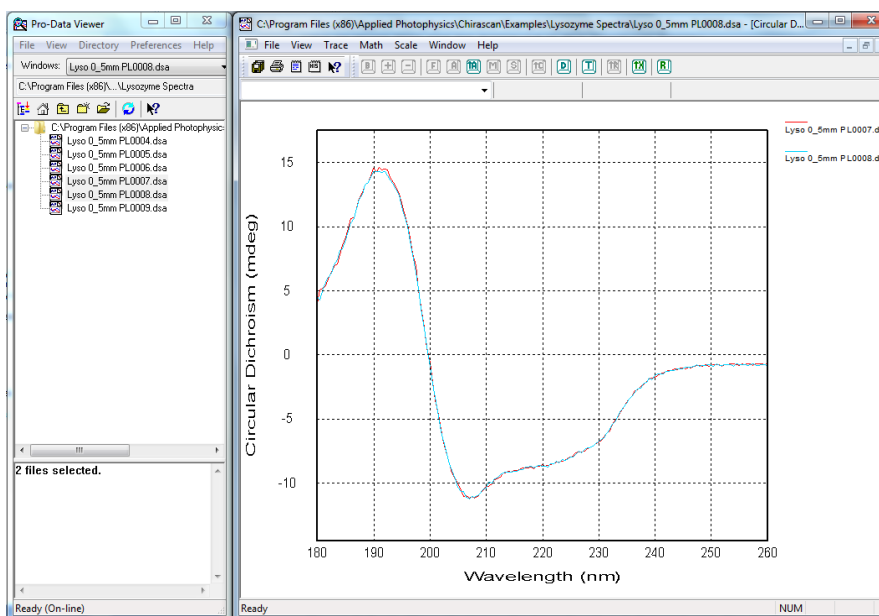

Figure 5.3: two files selected in the launchpad and dragged onto the display
- To add more than one file at a time, select multiple files from the list in the usual way (using the mouse pointer with **Ctrl** or **Shift** keys) and drag them onto the graphical display (Figure 5.3).